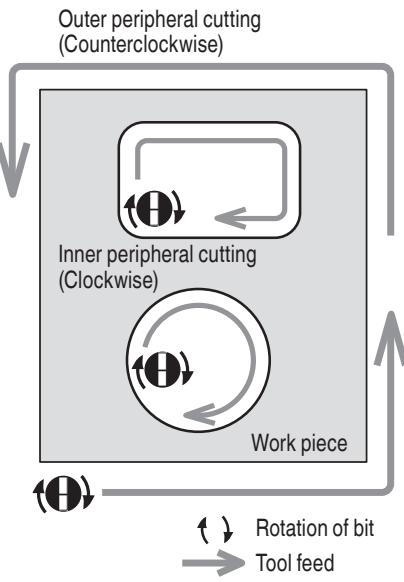

Fig. 14
- The bit rotates clockwise (arrow direction indicated on the base ass'y). To obtain maximum cutting effectiveness, feed the tool in conformance with the feed directions shown in Fig. 14.